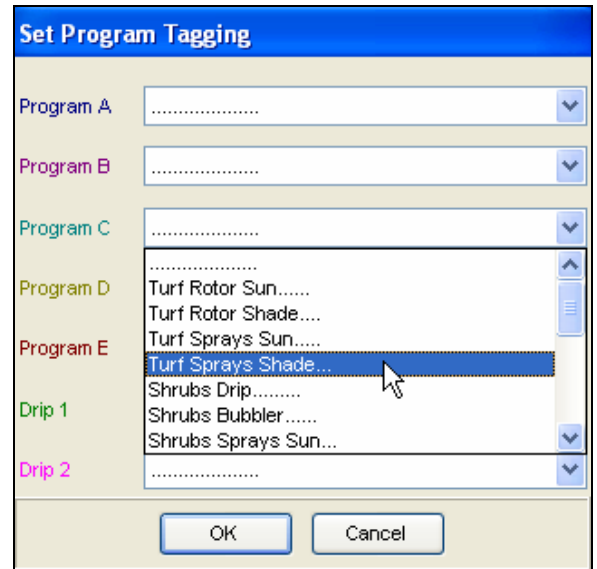

Figure 16.1.14C
10. By using the drop down arrow to the right you can choose a name for the selected program from a list provided (Figure 16.1.14C).